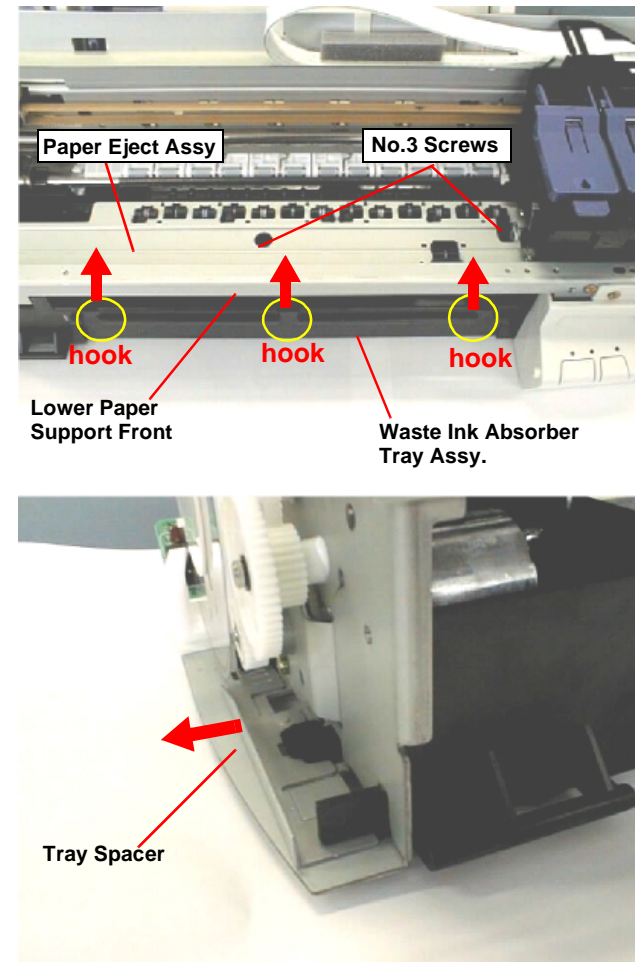

Figure 4-10. Removing two No.3 screws and Tray Spacer
- 4) Insert a screw driver through the center hole on the Paper Eject Assembly and remove one screw (No.3) securing the Lower Paper Support Front to the Waste Ink Absorber Tray Assembly. Release three hooks fixing the Lower Paper Support Front and remove the Lower Paper Support Front. Refer to Figure 4-10.
- 5) Remove one screw (No.3) securing Waste Ink Absorber Tray Assembly located in the right side of the printer mechanism. Refer to Figure 4-10.
- 6) On the Left side of the printer mechanism, using tweezers or a small screw driver, carefully shift the Tray Spacer securing the Waste Ink Absorber Tray Assembly to left horizontally. See Figure 4-10.